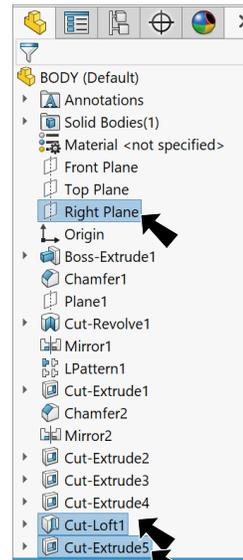

Fig. 82
Step 1. Ctrl click **Right Plane** , **Cut-Loft1** and **Cut-Extrude5** feature to select plane and features, **Fig. 82**.